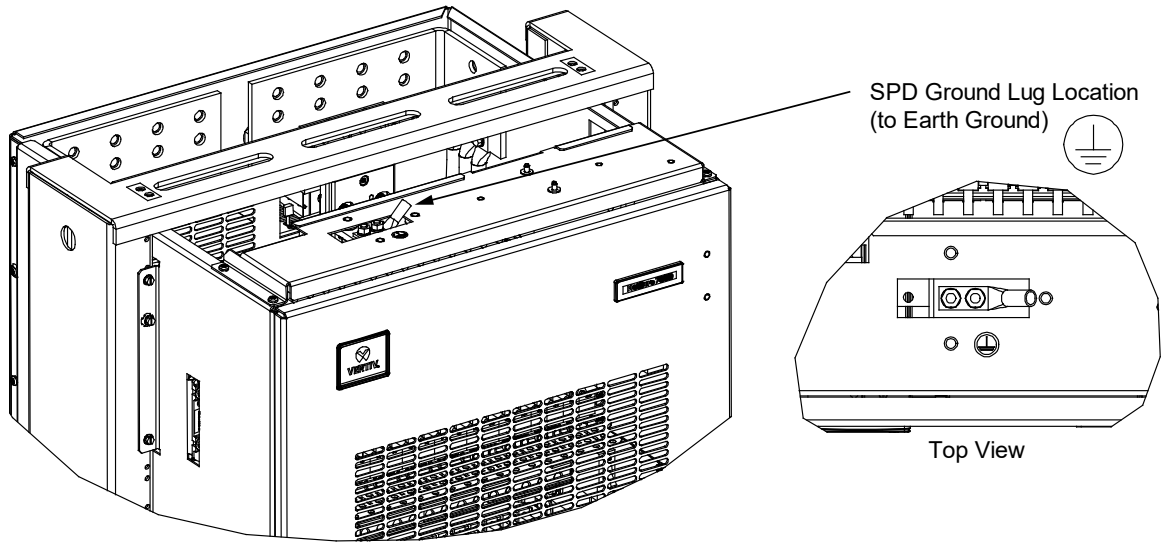

Figure 3
A landing point is provided on the top of the distribution cabinet for an SPD (Surge Protection Device) (if installed) earth ground lead. If installed, the SPD (Surge Protection Device) Assemblies are located on the underneath side of the distribution cabinet top cover panel. A busbar accessed from the top of the distribution cabinet is provided for the SPD earth ground connection. The busbar has two (2) 1/4 20 x 1/2" long threaded studs on 5/8" centers. A 2-hole, 5/8" centers, 1/4" hardware, 2 AWG flex wire crimp lug is provided with the power system. An opening in the top cover permits the compression lug to be routed either to the left or to the right. Refer to Figure 3.